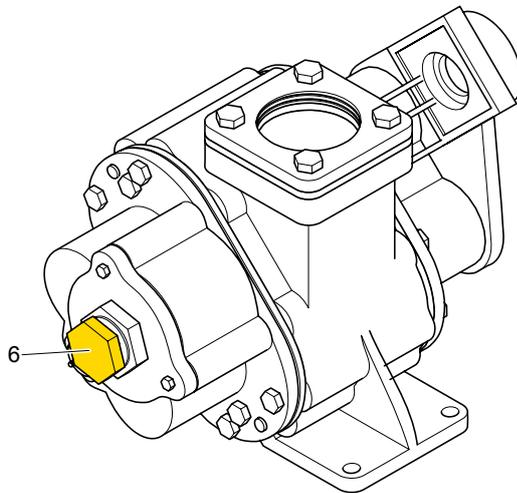

Figure 6: Valve
6. Loosen the pump Adjuster screw (Fig. 6 [6]) by ½ turn.
- a) Adjust Valve: Loosen the BLT005532 [6]. (Fig. 6)